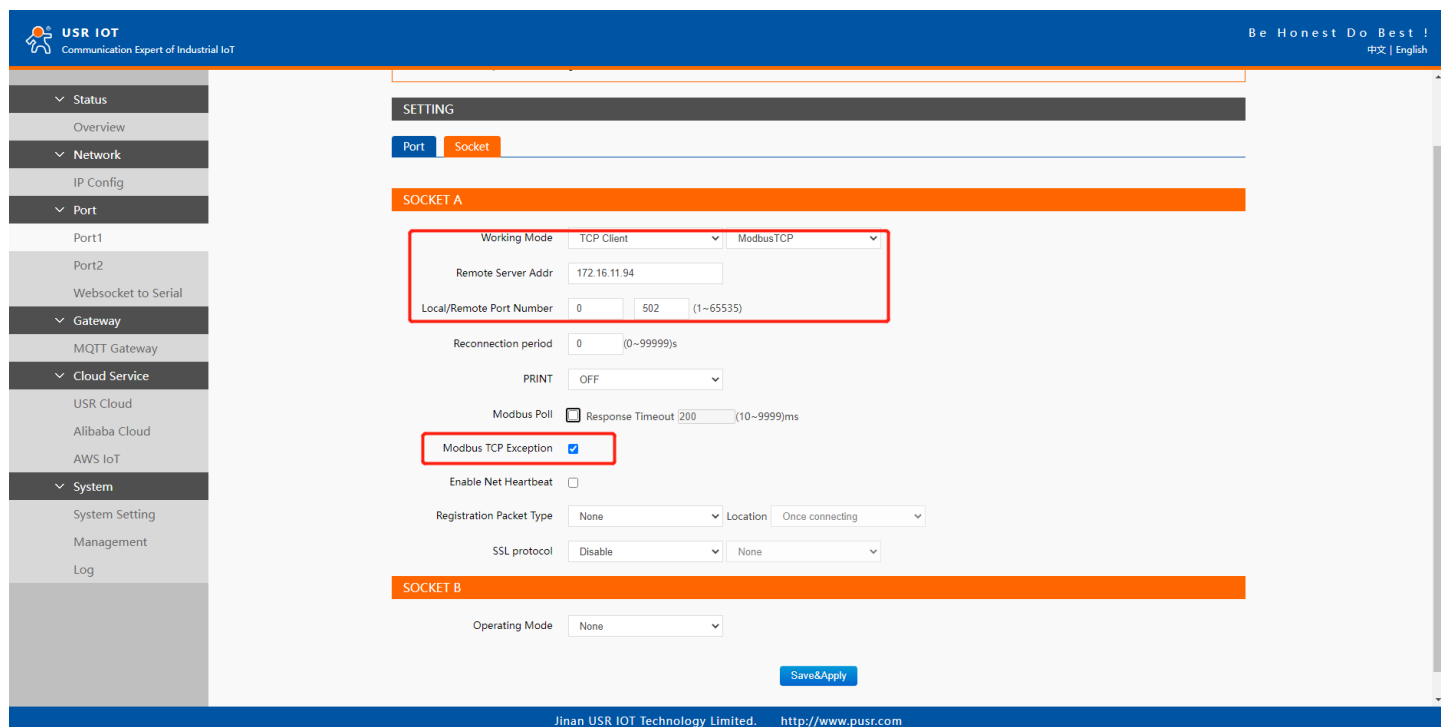

**Fig. 72 Modbus emulator settings(Ethernet master and serial slave)**
3. After selecting the virtual COM ports, please enter the IP Address of the serial device server with the specified Port Number. The Port Number here is the Local Listening Port for the serial device server which is specified in the Local Port field of Fig.72.